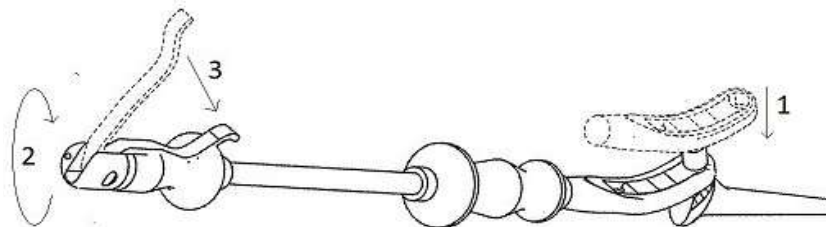

Fig. 3
9.3.2 APPLICATION and CLAMPING (Fig.3)